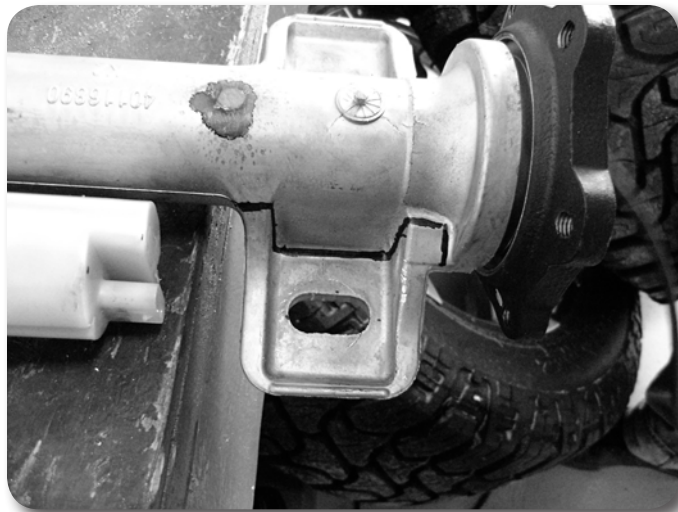
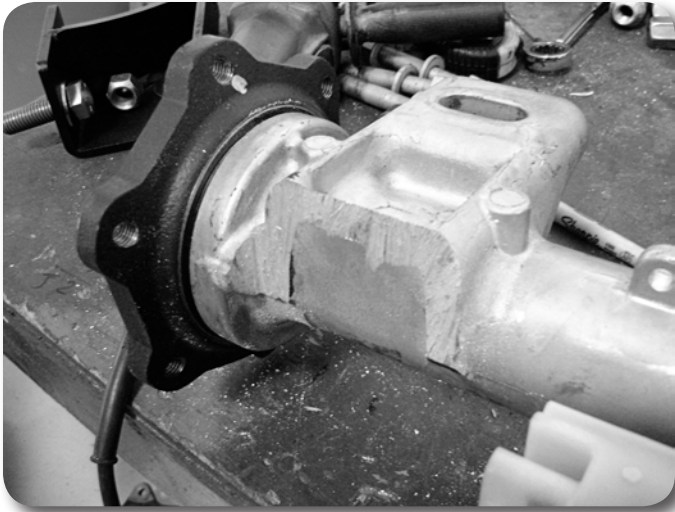

Figure 19
Figure 20
29. The differential housing needs to be modified to clear the electronic steering rack in the relocated position. Mark the passenger side mount as shown in Figure 19 and using a reciprocating saw make 2 cuts perpendicular to the mounting surface. Figure 20